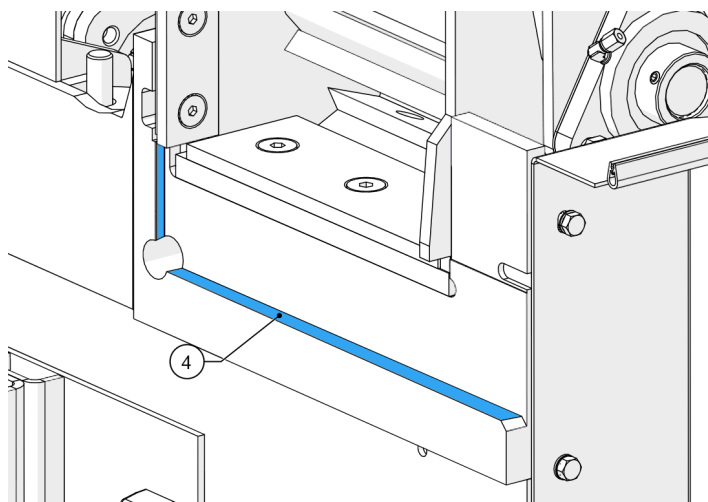

Figure 59 - Anvil seat
12. Make sure the anvil seats are free from dirt and debris before inserting anvil (4, Figure 59).